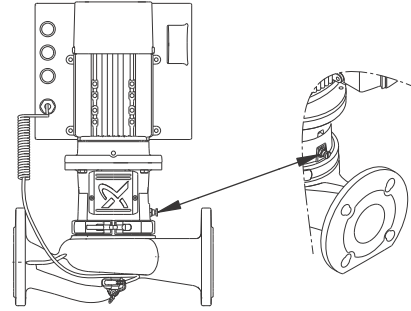

Fig. 23 Position of vent screw
1. Close the outlet isolating valve and loosen the vent screw in the motor stool. See fig. 23.
2. Loosen the vent screw. See fig. 23.